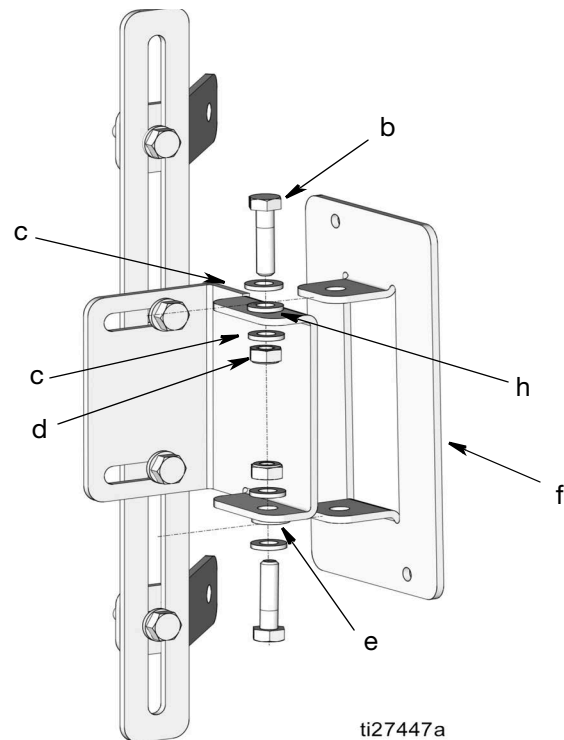

FIG. 46
- d. Install the GLC2200 mounting plate (f) to the mounting base plate (e) using bolts (b), washers (c) and nuts (d) as shown in FIG. 46. Be sure washer (h) is installed between the mounting plate (f) and mounting base plate (e) on the top and bottom. Wrench tighten nuts securely.